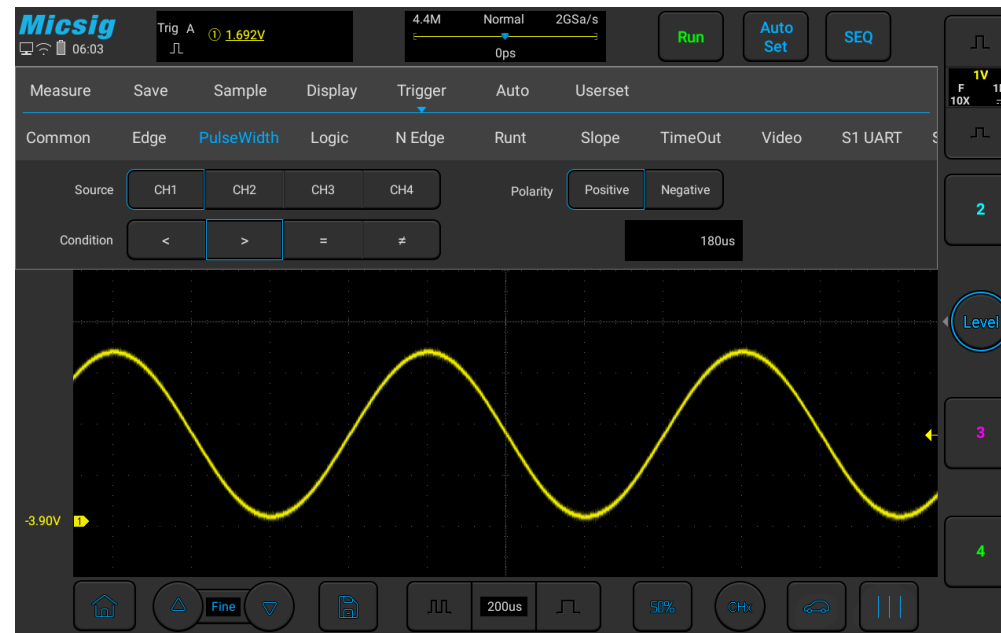

Figure 6-14 Pulse Width Trigger Setting Menu
- 1) Tap “Trigger” on the main menu to open the trigger menu, select the pulse width trigger in the trigger type, and set the pulse width trigger as follows, as shown in Figure 6-14: